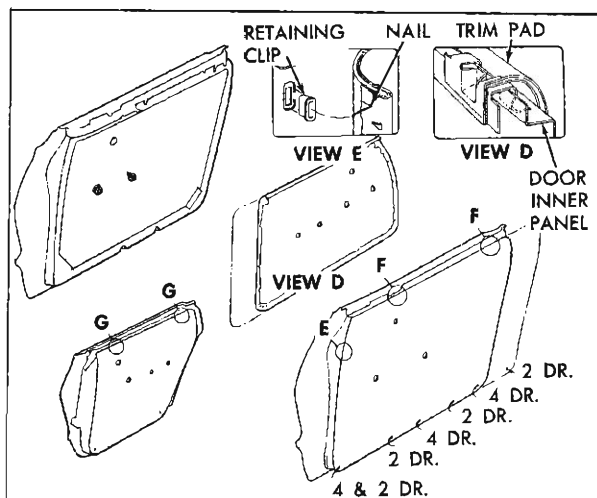

Fig. 15—Door Trim Assembly
All door trim assemblies are the hang-on type and are further secured by attaching screws along bottom edge and by retaining nails inserted into plastic retaining cups in the door inner panel (see Views "D" and "E" in Figure 15).
2. Remove screws securing trim assembly to door inner panel (fig. 15).